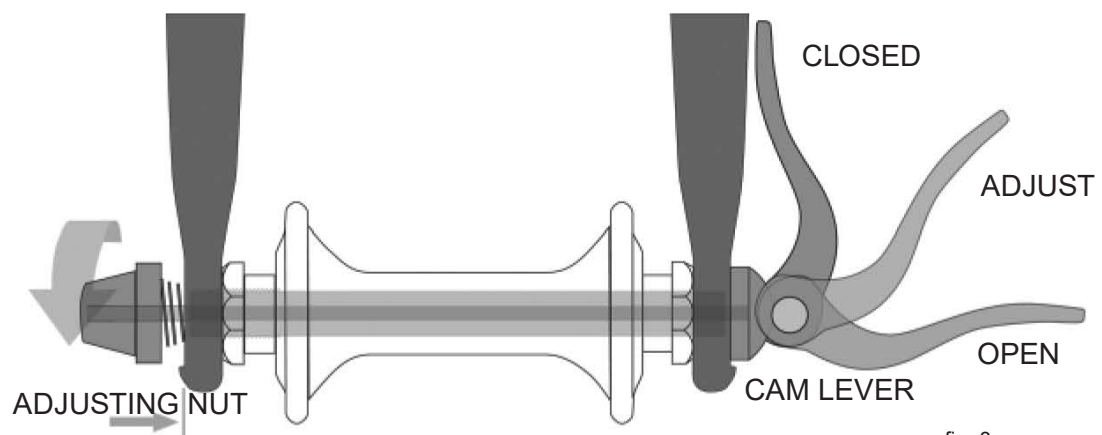
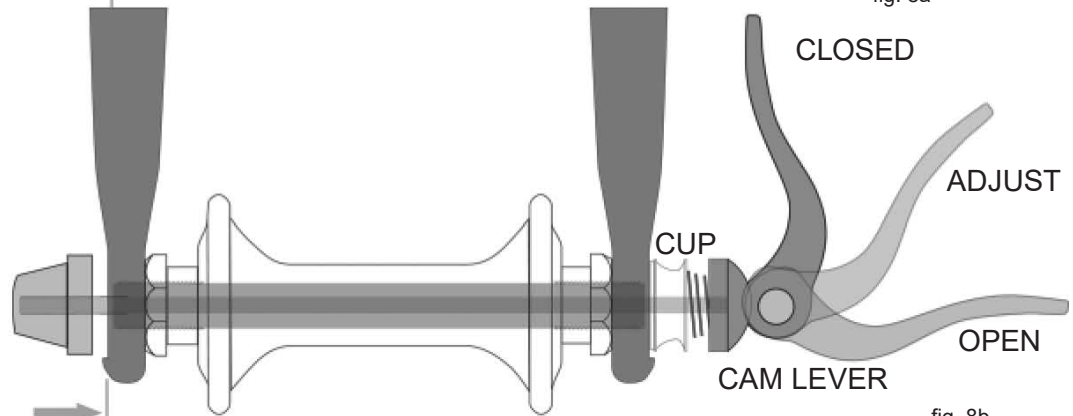

fig. 8a
fig. 8b
There are currently two types of over-center cam wheel retention mechanisms: the traditional over-center cam (fig. 8a) and the cam-and-cup system (fig. 8b). Both use an over-center cam action to clamp the bike's wheel in place. Your bicycle may have a cam-and-cup front wheel retention system and a traditional rear wheel cam action system.
a. Adjusting the traditional cam action mechanism (fig. 8a)
b. Adjusting the cam-and-cup mechanism (fig. 8b)
- (2) If your bike has cam action front wheel retention, move the cam lever from the locked or CLOSED position to the OPEN position (fig. 8a & b). If your bike has through bolt or bolt-on front wheel retention, loosen the fastener(s) a few turns counter-clockwise using an appropriate wrench, lock key or the integral lever.
- (3) If your front fork has a clip-on type secondary retention device, disengage it. If your front fork has an integral secondary retention device, and a traditional cam action system (fig. 8a) loosen the tension adjusting nut enough to allow removing the wheel from the dropouts. If your front wheel uses a cam-and-cup system, (fig. 8b) squeeze the cup and cam lever together while removing the wheel. No rotation of any part is necessary with the cam-and-cup system.
- (1) If your bike has cam action front wheel retention, move the cam lever so that it curves away from the wheel (fig. 8b). This is the OPEN position. If your bike has through bolt or bolt-on front wheel retention, go to the next step.
- (2) With the steering fork facing forward, insert the wheel between the fork blades so that the axle seats firmly at the top of the fork dropouts. The cam lever, if there is one, should be on rider's left side of the bicycle (fig. 8a & b). If your bike has a clip-on type secondary retention device, engage it.
- (3) If you have a traditional cam action mechanism: holding the cam lever in the ADJUST position with your right hand, tighten the tension adjusting nut with your left hand until it is finger tight against the fork dropout (fig. 8a). If you have a cam-and-cup system: the nut and cup (fig. 8b) will have snapped into the recessed area of the fork dropouts and no adjustment should be required.
- (4) While pushing the wheel firmly to the top of the slots in the fork dropouts, and at the same time centering the wheel rim in the fork:
- (a) With a cam action system, move the cam lever upwards and swing it into the CLOSED position (fig. 8a & b). The lever should now be parallel to the fork blade and curved toward the wheel. To apply enough clamping force, you should have to wrap your fingers around the fork blade for leverage, and the lever should leave a clear imprint in the palm of your hand.
- (3) On a derailleur gear system, pull the derailleur body back with your right hand.
- (4) With a cam action mechanism, move the quick-release lever to the OPEN position (fig. 8b). With a through-bolt or bolt-on mechanism, loosen the fastener(s) with an appropriate wrench, lock lever or integral lever; then push the wheel forward far enough to be able to remove the chain from the rear sprocket.
- (5) Lift the rear wheel off the ground a few centimeters and remove it from the rear dropouts.
- (1) With a cam action system, move the cam lever to the OPEN position (see fig. 8a & b). The lever should be on the side of the wheel opposite the derailleur and freewheel sprockets.
- (2) On a derailleur bike, make sure that the rear derailleur is still in its outermost, high gear, position; then pull the derailleur body back with your right hand. Put the chain on top of the smallest freewheel sprocket.
- (3) On single-speed, remove the chain from the front sprocket, so that you have plenty of slack in the chain. Put the chain on the rear wheel sprocket.
- (4) Then, insert the wheel into the frame dropouts and pull it all the way in to the dropouts.
- (5) On a single speed or an internal gear hub, replace the chain on the chainring; pull the wheel back in the dropouts so that it is straight in the frame and the chain has about 0.6 cm of up-and-down play.
- (6) With a cam action system, move the cam lever upwards and swing it into the CLOSED position (fig. 8a & b). The lever should now be parallel to the seat stay or chain stay and curved toward the wheel. To apply enough clamping force, you should have to wrap your fingers around the fork blade for leverage, and the lever should leave a clear imprint in the palm of your hand.
- (7) With a through-bolt or bolt-on system, tighten the fasteners to the torque specifications in Appendix C or the hub manufacturer's instructions.
Some bikes are equipped with a cam action seat post binder. The seat post cam action binder works exactly like the traditional wheel cam action fastener (Section 4.A.2) While a cam action binder looks like a long bolt with a lever on one end and a nut on the other, the binder uses an over-center cam action to firmly clamp the seat post (see fig. 8a).